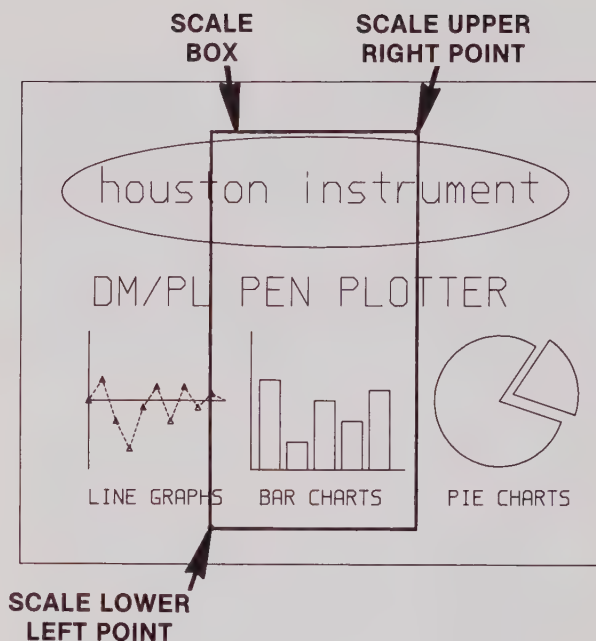

**FIGURE 2-7
- Use the plotter manual controls and move the pen to the approximate location for the lower left point shown in Figure 2-7.
- Use the plotter manual controls and move the pen to the approximate location for the upper right point shown in Figure 2-7.
- Insert a clear sheet of small chart paper or use the backside of the used sheet. Use the manual movement keys to move the pen to the vicinity of the scale lower left point shown in Figure 2-7.
9. Insert a clean sheet of small chart paper or use the backside of the used sheet. Use the manual movement keys to move the pen to the vicinity of the scale lower left point shown in Figure 2-7.